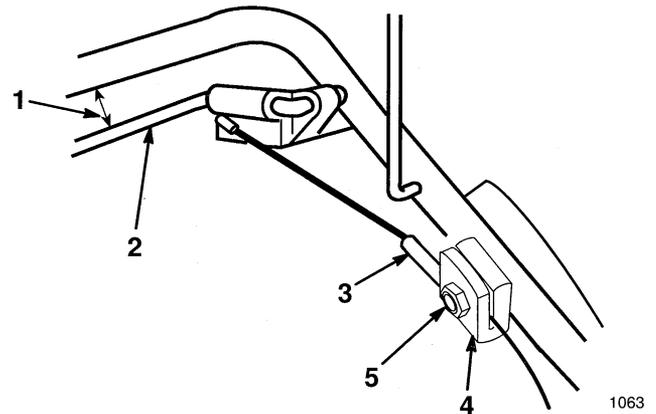

Figure 30
1. Loosen nut on cable support (Fig. 30).
2. Hold self-propelled bail 1 to 1 1/2 in. (25 to 38 mm) from handle (Fig. 30).